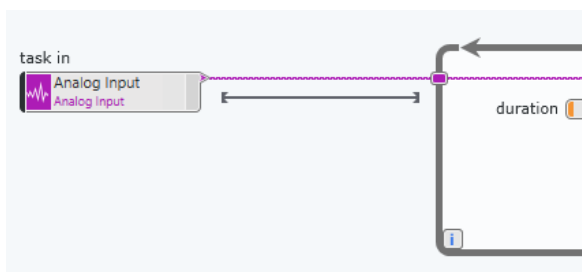

Figure 6-10 You can dynamically create space on a block diagram by holding control while clicking and dragging your cursor.
24. Make some space to the left of the while loop by holding Ctrl, clicking and dragging your cursor in the area you'd like to expand, as in Figure 6-10.